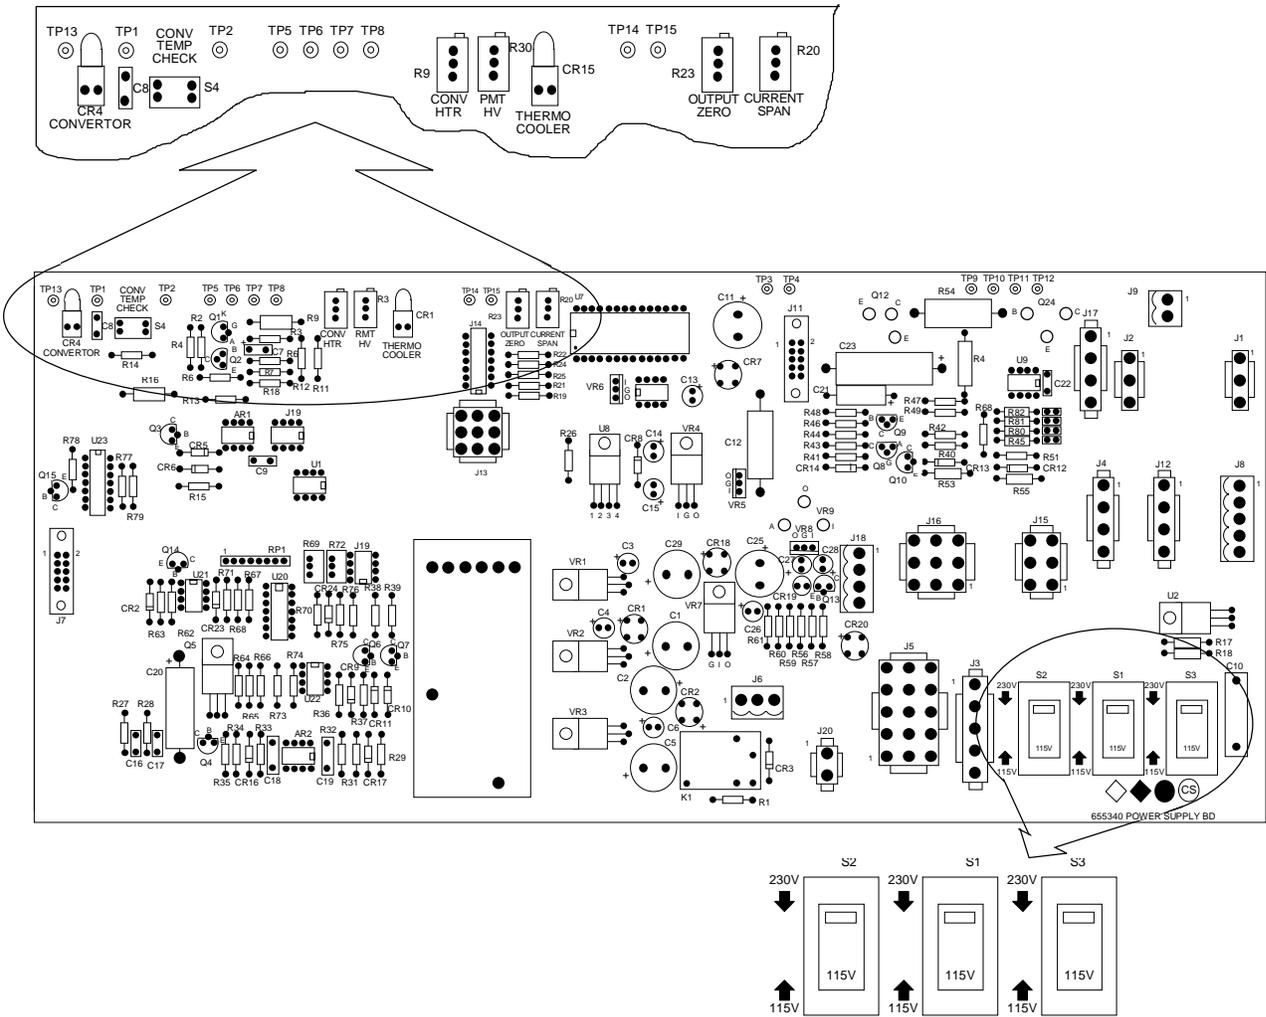

FIGURE 3-3. POWER SUPPLY BOARD
3. Refer to Figure 3-3. Turn the converter temperature adjust potentiometer R9, on the Power Supply Board one turn *counterclockwise* from the setting established at the factory, and allow fifteen minutes for operation at the new lower temperature setpoint. Recheck the response and note the value for later use.